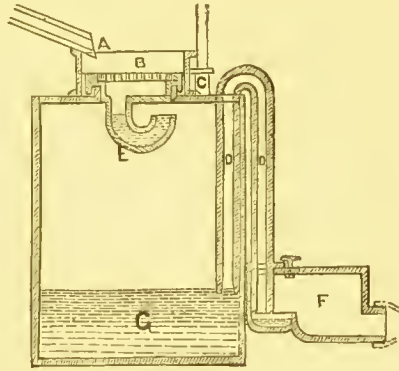

FIG. 67.—VERTICAL SECTION.
*Mr. Rodgers Field's Patent Self-acting "Flush-tank."*—Fig. 67 shows a *vertical section* of this tank and *syphon-pipe*, D, for the automatic emptying of the tank. Perhaps the proper place for considering this tank would have been under the head of "Drains," Chap. XXII., but as it is made to answer the purpose of a trap, it may as well be considered here.